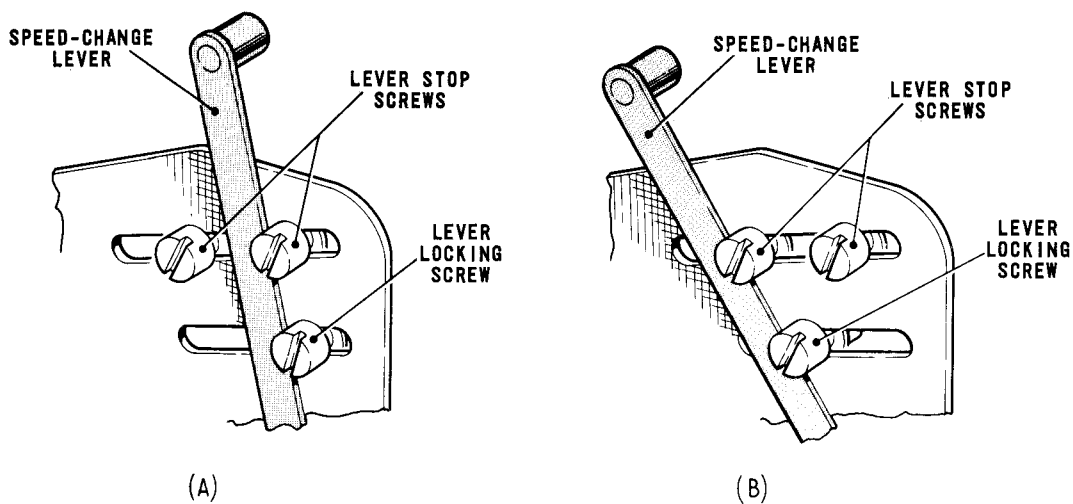

Fig. 2.5 SPEED-CHANGE LEVER POSITIONS
- 4.3 Refer to the table below and move the speed-change lever, Fig.2.5, to the required position;
- 5.5 Refer to the table below and move the speed-change lever, Fig.2.5, to the required position.